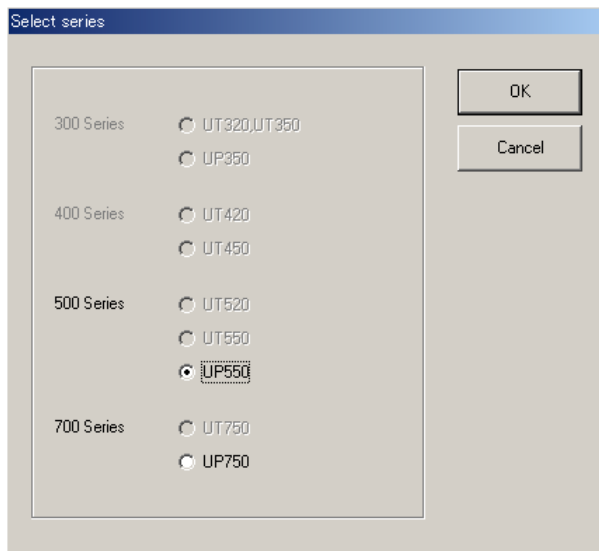

Figure 9.1.2 Select Series Dialog Box
- (4) Select **Program pattern setting tool**.
- (5) Click **OK**.
- (6) The Select Series dialog box appears (Figure 9.1.2).